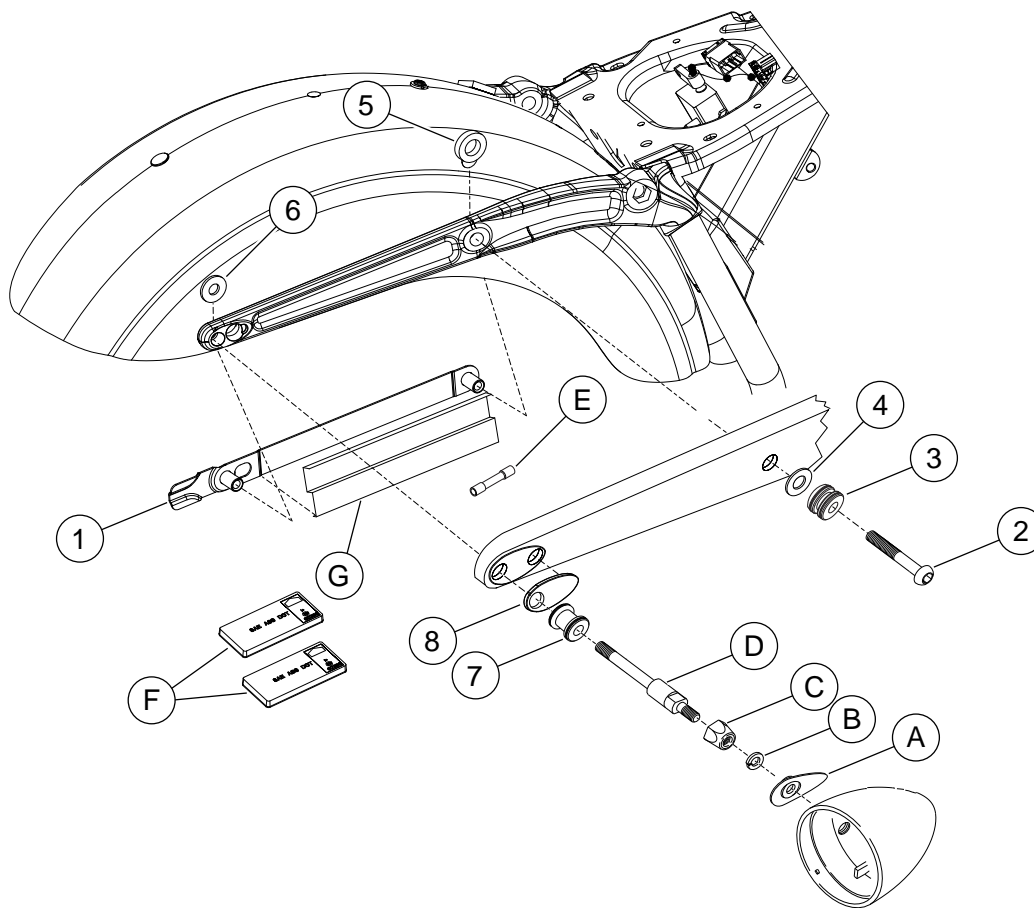

Figure 1. Service Parts: Dyna Docking Hardware Kit
See Figure 1 and Table 1.
1. See Figure 1 and Table 1. Remove the OEM fender bracket, wire channel (G) and turn signal.
2. Place the flat side of front docking point (3) on the screw (2) followed by the washer (4). The tapered side of the docking point is towards the frame rail cover.